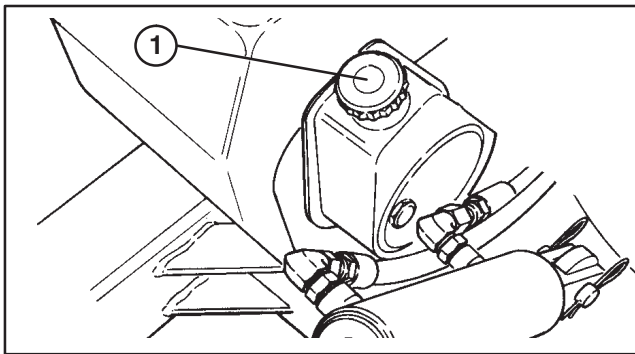

Figure 28
2. Position a drain pan under chassis below pump assembly (Fig. 28).